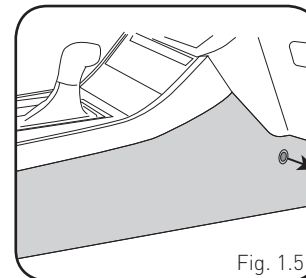

Fig. 1.5
6. Remove one (1) T20 Torx screw from the center console side panel and release the clips to remove. (Fig. 1.5)